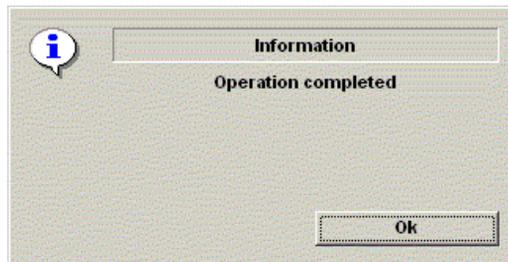

Figure 4-54 Format Successful Pop-up Menu
- 5.) The Ultrasound system displays a pop-up menu, as shown in Figure 4-54. When the formatting has been completed, press OK to continue.